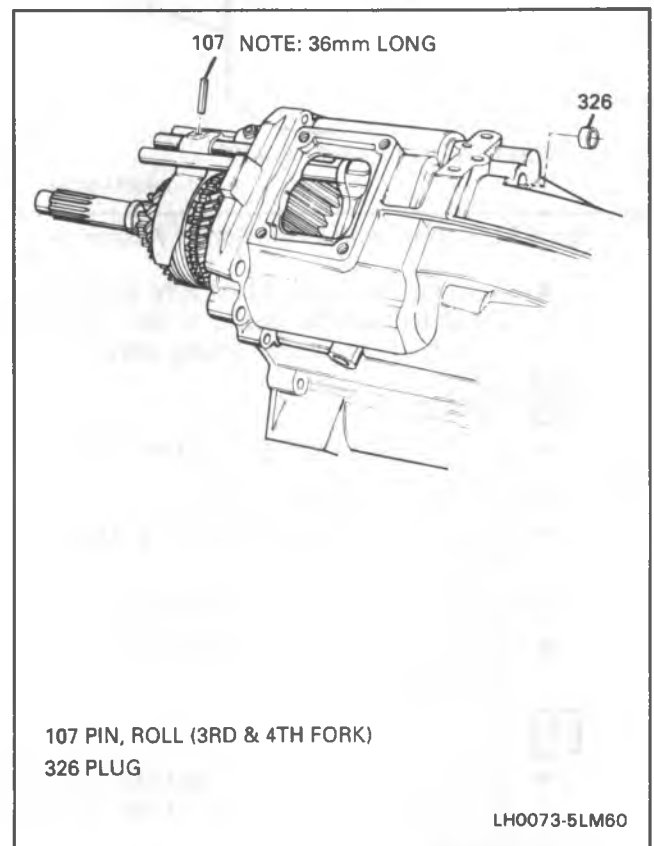

Figure 71 3-4 Fork Roll Pin and Plug Install
21. Roll pin (107) (36 mm) (Figure 71).